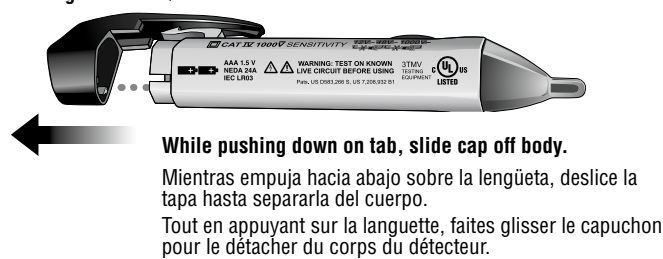

Fig. 3
- Place batteries into tester with the positive terminals facing the tip, Fig. 3.